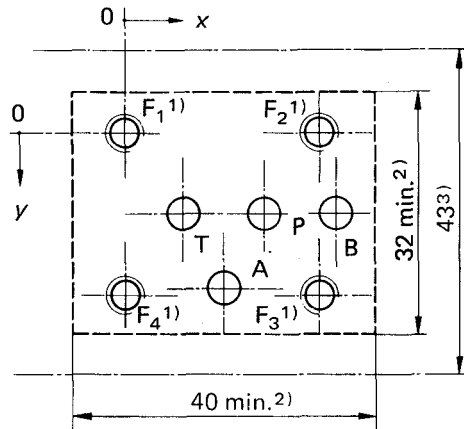

Figure 1 — Mounting surface for four-port hydraulic directional control valves with 4 mm maximum port diameter
6.1 Mounting surface with 4 mm maximum port diameter (ISO 4401-AA-02-4-A)\*, see figure 1, table 1.